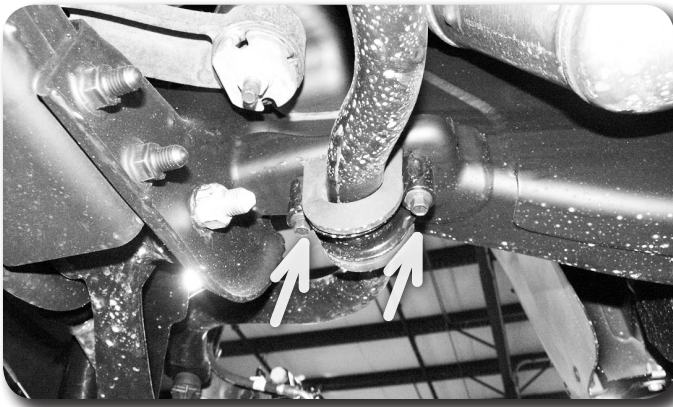

Figure 6
10. Remove the sway bar from the frame by removing the four bushing cap mounting bolts **Figure 6**. Save all sway bar components.